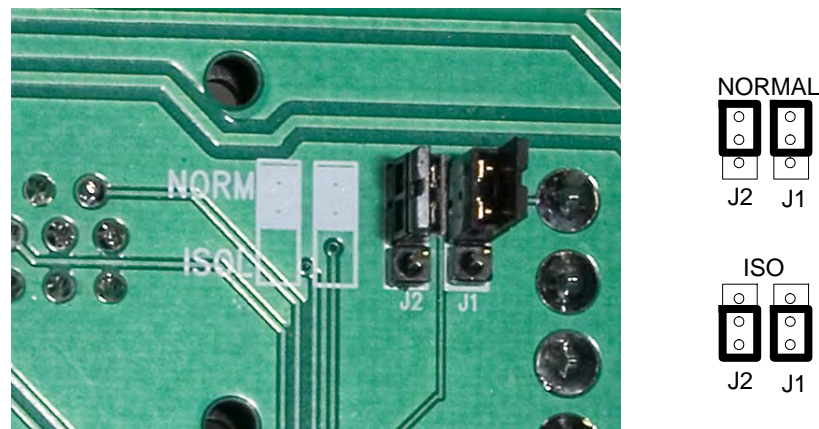

Figure 3-7 Machine Stop Interlock Jumper Settings - Shown Set To NORMAL
See Figure 3-7. To access the Machine Stop Interlock jumpers, remove the system controller cover. The jumpers are on the back of the I/O connector circuit board.
- Both jumpers must be set to one of the two positions as shown in Figure 3-7.